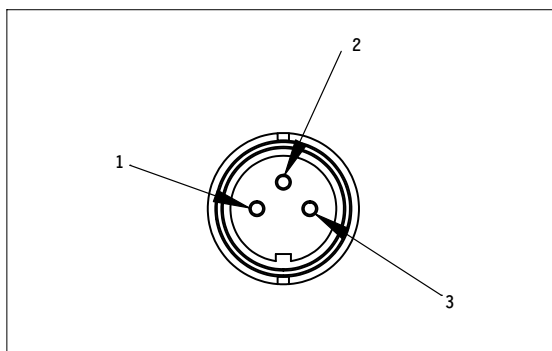

Figure 14: Trigger connection
1. Refer to Figure 14. Wire the M16 signal trigger connector by disassembling the back shell from the connector and wiring it as shown below.